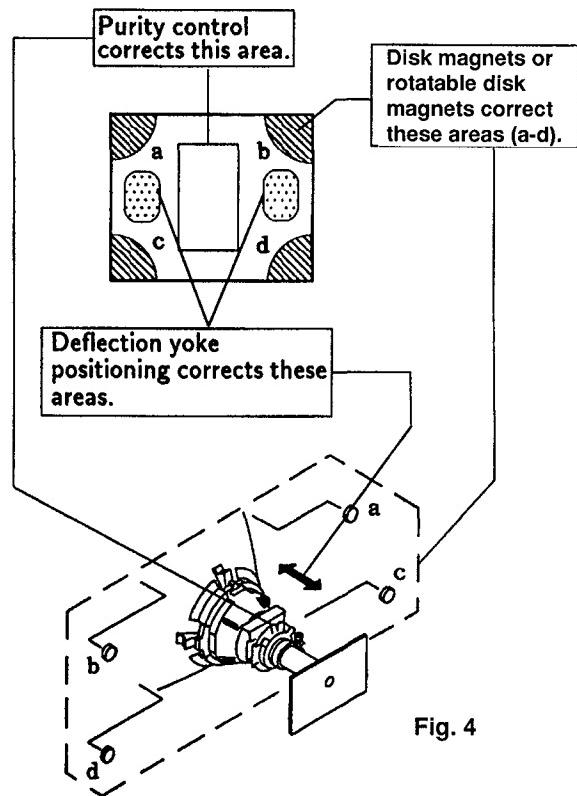

Fig. 4
- When landing at the corner is not right, adjust by using the disk magnets. (Fig.4)